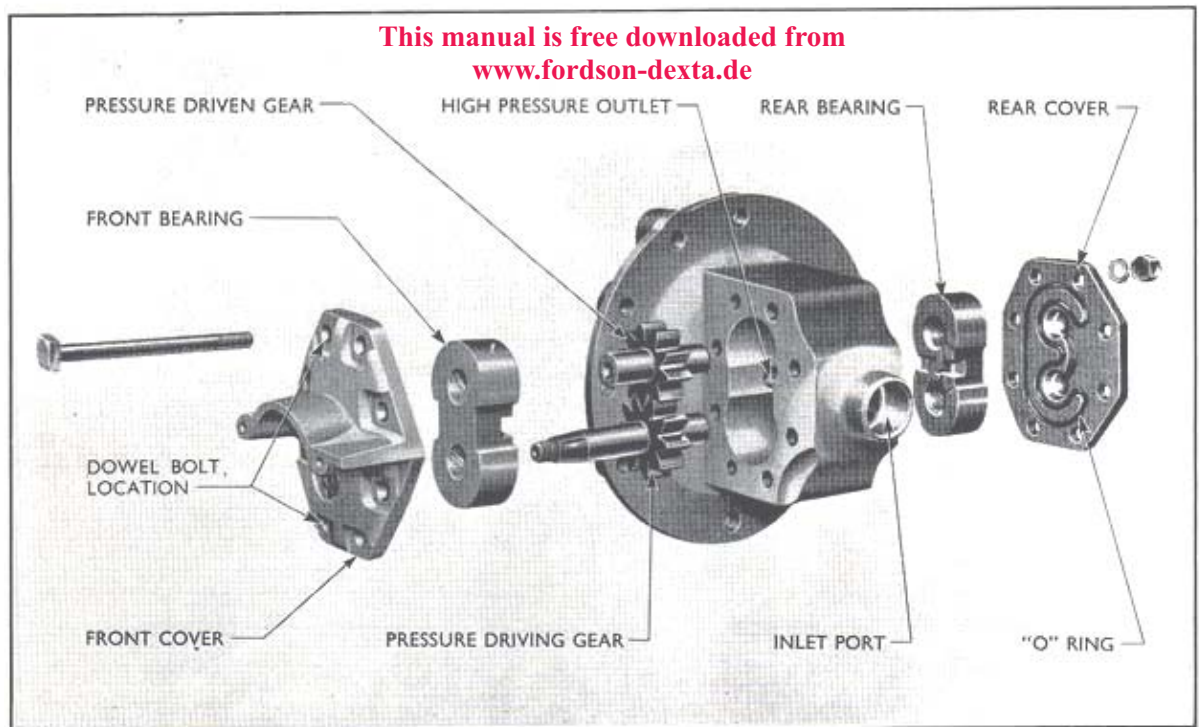

Fig. 40
5. Remove the nuts, spring washers and through bolts retaining the two end covers. Note that the second bolts from the flange, top and bottom, are dowel bolts machined to very fine limits (see Fig. 40), and they should not be mixed with the other retaining bolts. These bolts are marked with letter 'D' on their heads.
6. Lightly secure the end covers to the pump body with the two dowel bolts which must be correctly positioned, as described in paragraph 5, column 1 (see also Fig. 40). Fit the remaining six bolts together with the nuts and spring washers, taking care to locate the square bolt heads in the square recesses in the front cover. Tighten the nuts evenly to 40/45 lbs. ft. torque (5.528/6.219 kg.m.).